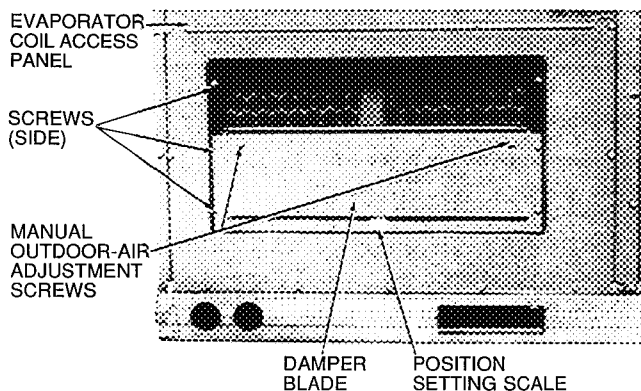
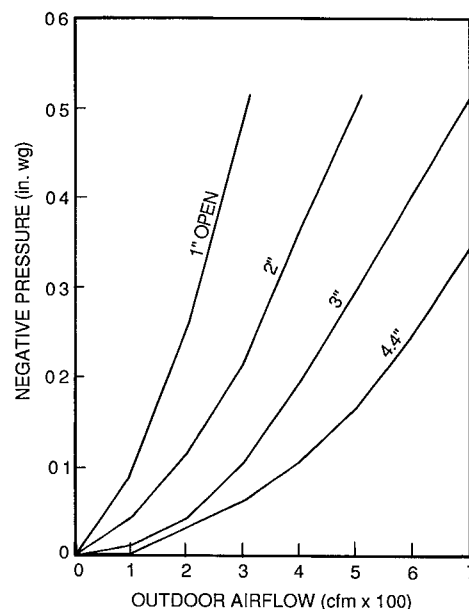

Fig. 11 — Damper Panel With Manual Outdoor-Air Damper Installed
Fig. 14 — Position Setting
2. Remove and save evaporator coil access panel and screws. See Fig. 11.
8. Adjust minimum position setting of the damper blade by adjusting the manual outdoor-air adjustment screws on the front of the damper blade. See Fig. 11. Slide blade vertically until it is in the appropriate position determined by Fig. 14. Tighten screws.